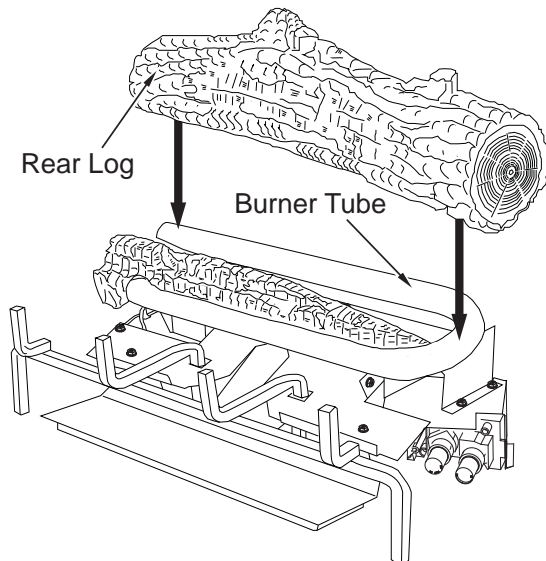

Figure 34 - Installing Rear Log
2. Place the rear log on the base assembly as shown in **Figure 34**. The rear log has grooves in the bottom which will allow the log to sit on the burner and behind the bottom ember log.